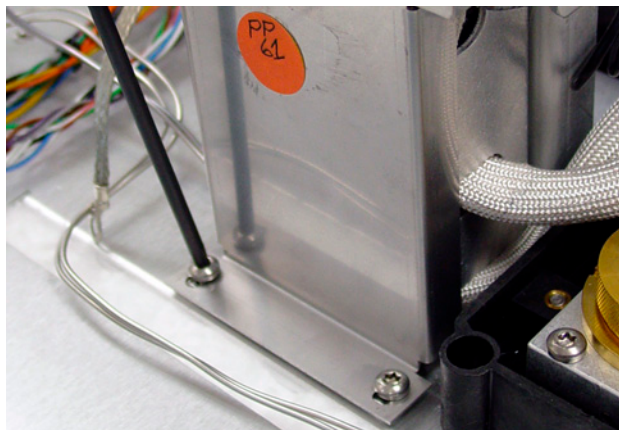
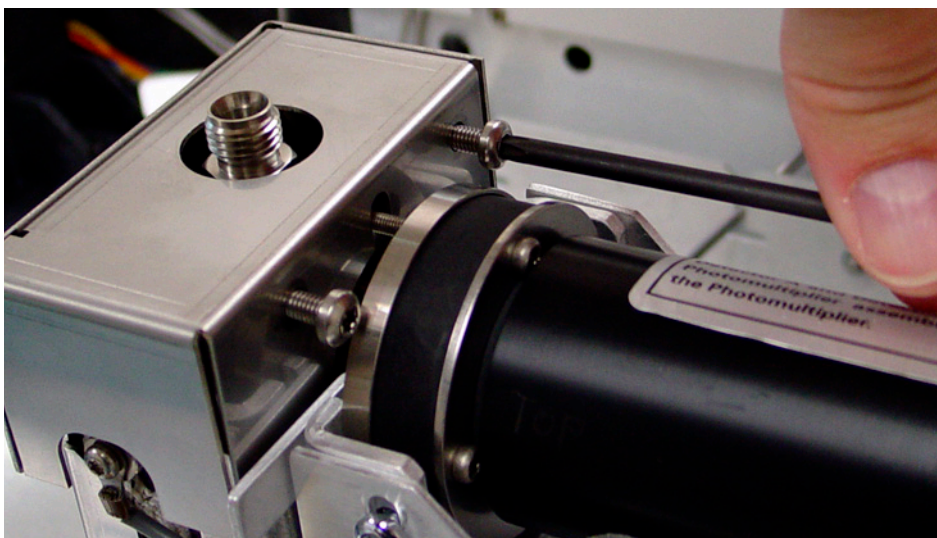

Figure 30 Cover screws, left side (single-wavelength FPD)
Figure 31 Cover screws, right side (both FPDs)
- 5 **Single-wavelength detector.** Use a Torx T-20 driver to remove the screws securing the FPD cover. There are two screws at the bottom of the left side (Figure 30) and two screws at the top of the right side (Figure 31).
Dual-wavelength detector. Use a Torx T-20 driver to remove the screws securing the FPD cover. There are two screws at the top of the right side (Figure 31).